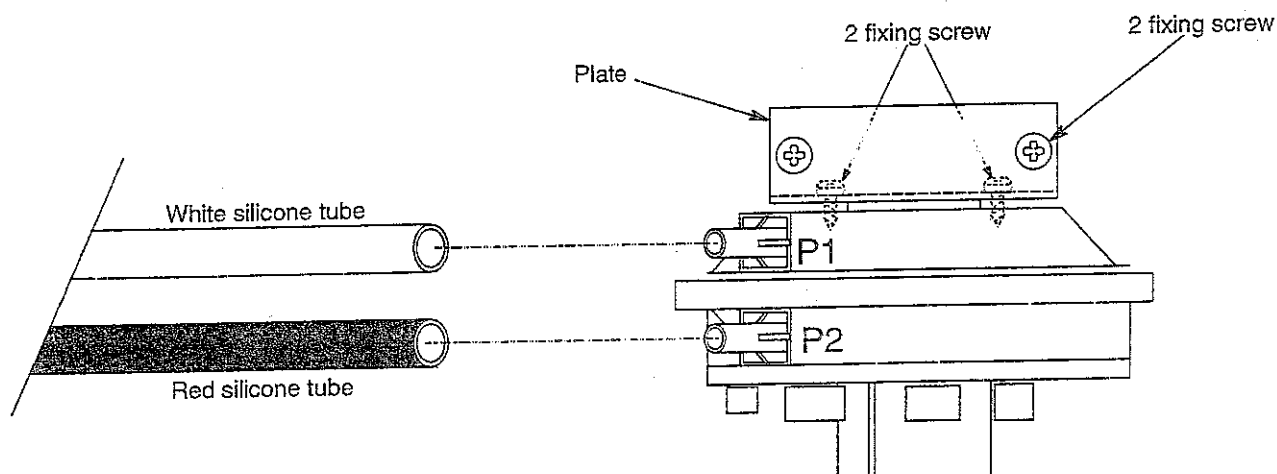

Fig. 45
- c) Remove the two screws securing the air collection plate (fig. 45), and withdraw the plate complete with the air pressure switch.